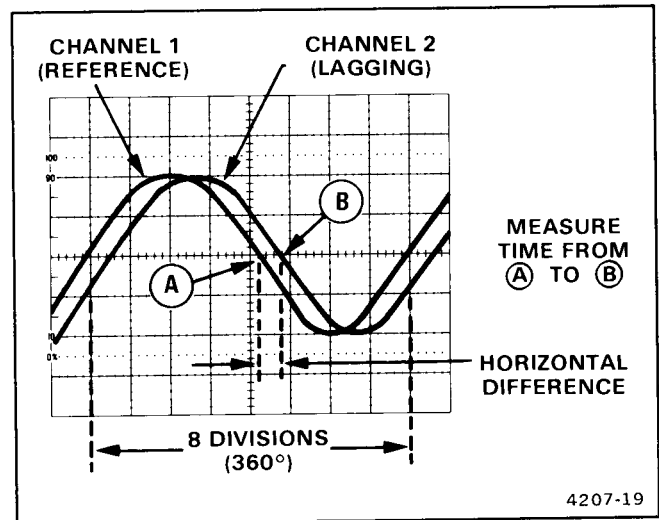
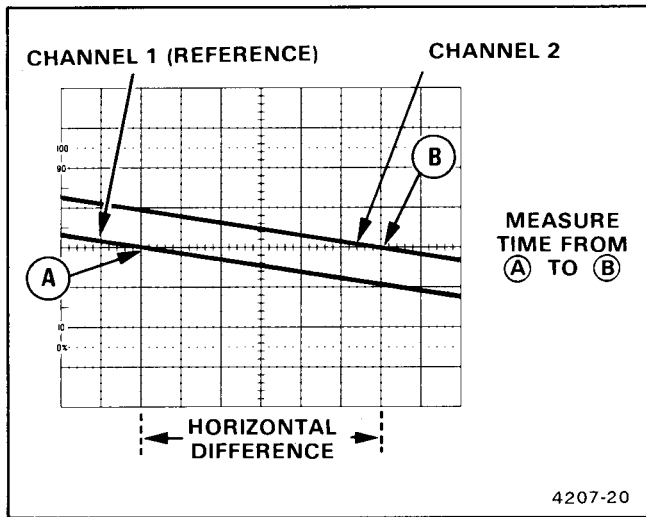

Figure 4-9. Phase difference.
Figure 4-10. High-resolution phase difference.
9. Position the displays and adjust the SEC/DIV Variable control so that one reference-signal cycle occupies exactly 8 horizontal graticule divisions at the 50% rise-time points (see Figure 4-9). Each division of the graticule now represents 45° of the cycle ($360^\circ \div 8$ divisions), and the horizontal graticule calibration can be stated as 45° per division.
EXAMPLE: The horizontal difference is 0.6 division with a graticule calibration of 45° per division as shown in Figure 4-9.
EXAMPLE: If the sweep speed were increased 10 times with the magnifier (X10 Magnifier out), the magnified horizontal graticule calibration would be $45^\circ/\text{division}$ divided by 10 (or $4.5^\circ/\text{division}$). Figure 4-10 shows the same signals illustrated in Figure 4-9, but magnifying the displays results in a horizontal difference of 6 divisions between the two signals.